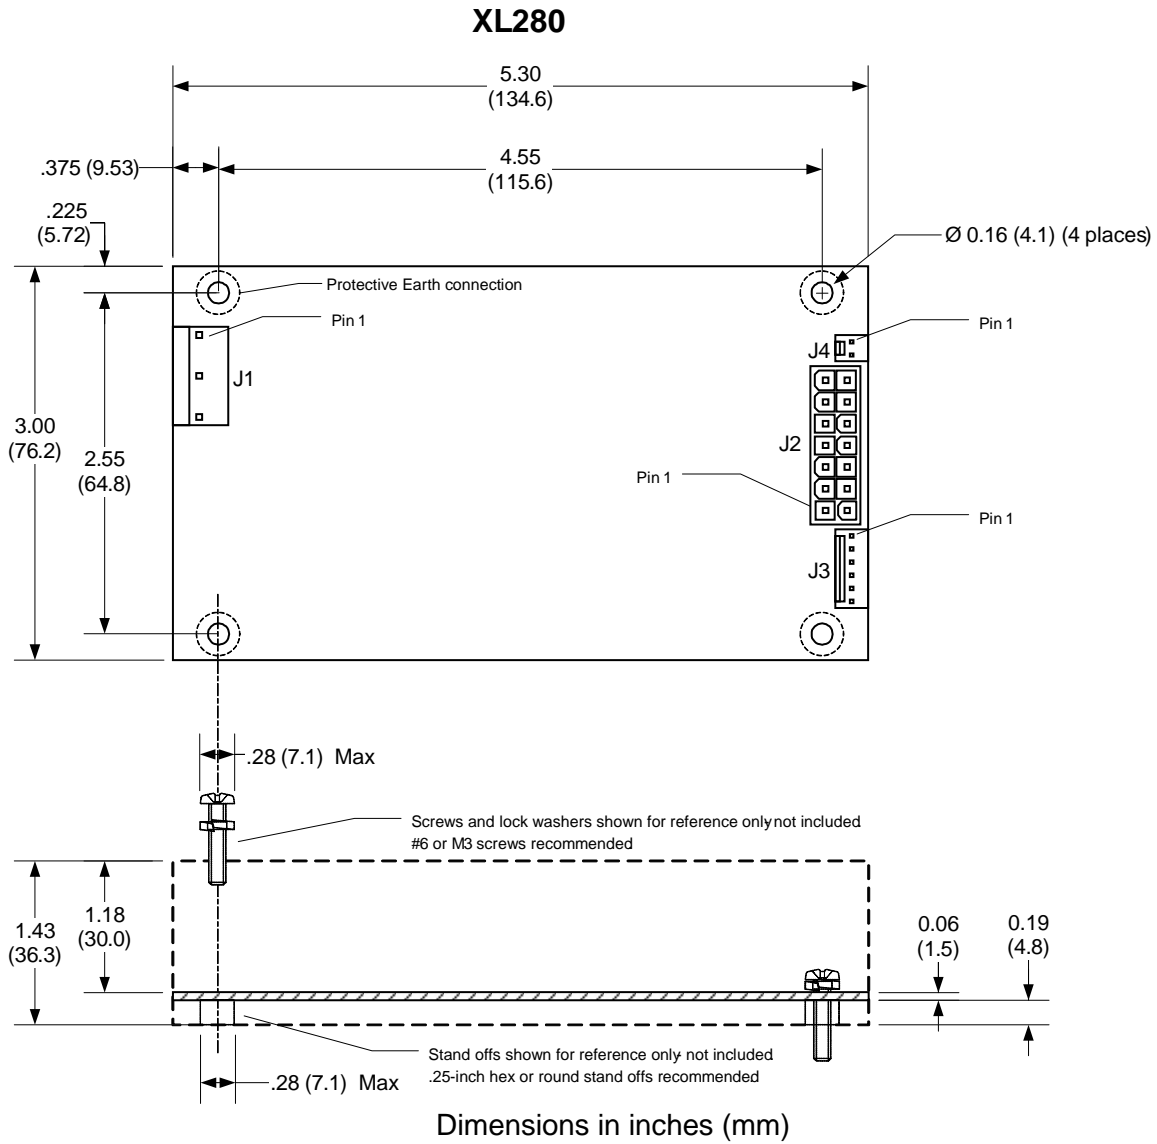

Figure 4-2 Dimensions
**The pin-1 location differs amongst connector manufacturers. Sometimes pin-1 differs between the header (on the power supply) and the mating housing from the same manufacturer. Disregard the manufacturer's pin-1 location and follow only the pin-1 locations in Figure 4.2**
- Refer to Figure 4-2 for connector and pin-1 locations